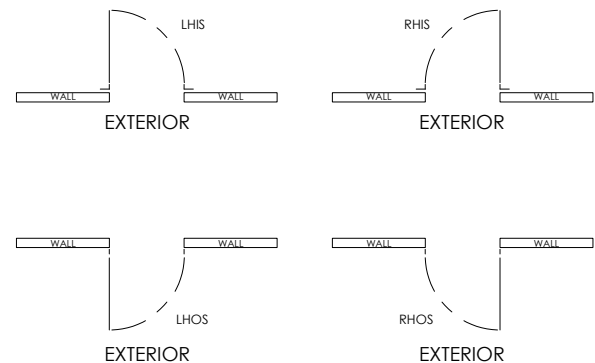

Figure 1
Standard installation is for outswing doors (**See Fig. 1**). Any build out or trimming required to get the proper opening width should be performed on the latch side as the hinge side is weight bearing. Use appropriate shims (not included) to keep the hinge and latch sides plumb and square.
**Please note that in-swing doors mount on the inside of the room and follow the same directions doors. See Fig. 1.**